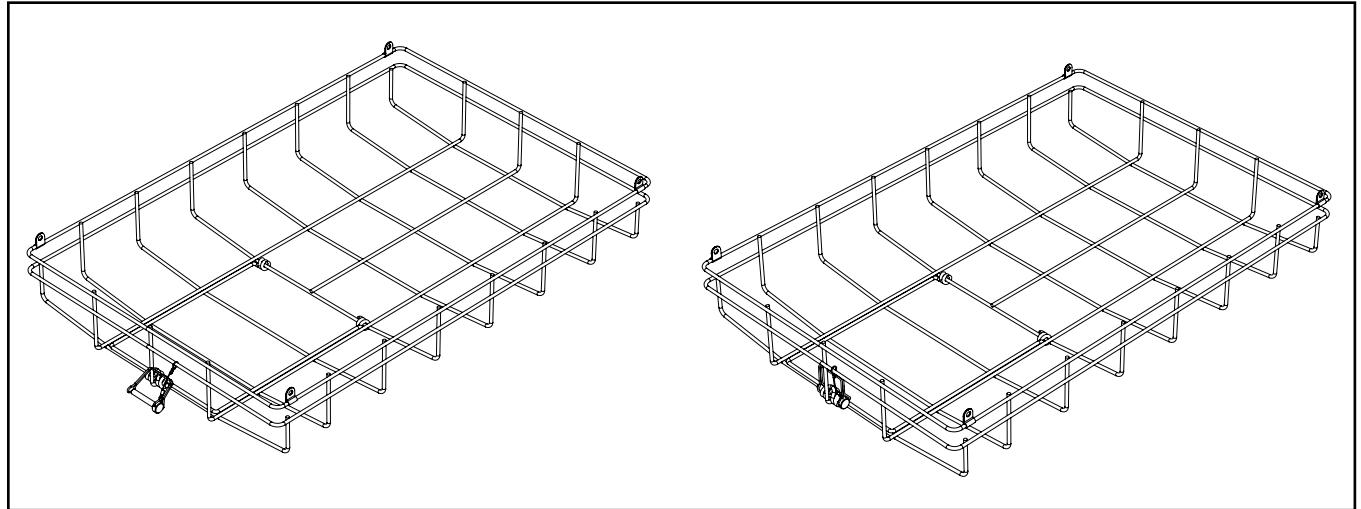

Figure 3.
- With the sensor door in the closed position, insert the clevis pin through the hasp and staple, then lock the clevis pin by restoring its wire retainer into the locked position. (Figure 3)